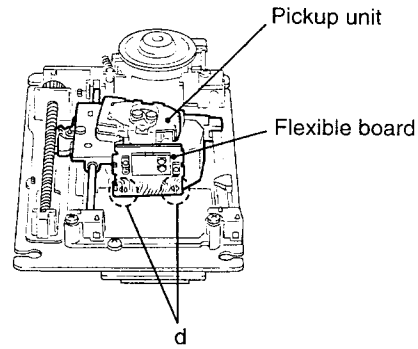

Fig.5
■ Removing the pickup (See Fig.5 to 9)